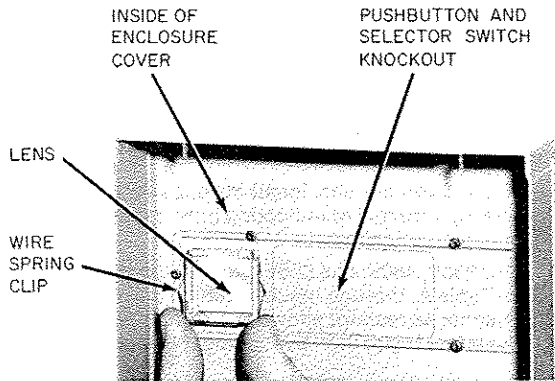

Figure 4. Installation of lens
9. Insert the ends of the wire spring clip into the two small holes in the back of the lens (see Figure 4).